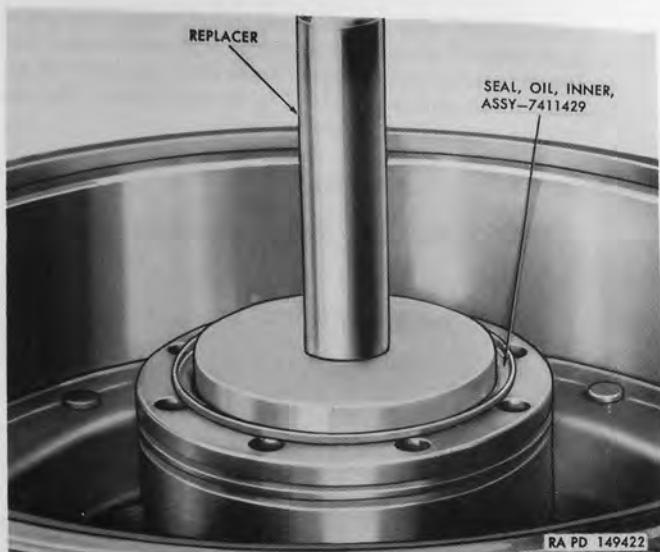

Figure 184. Installing inner oil seal with replacer 41-R-2392-635.
- (1) Clean, inspect, and lubricate outer and inner roller bearing cones (G and L), inside of hub with bearing cups assembly (J), and steering knuckle or axle housing as directed in TM 9-819A.
- (2) Place inner roller bearing cone (L) in inner end of hub. Position new inner oil seal assembly (M) on inner end of hub and drive into place with replacer 41-R-2392-635 (fig. 184). Oil seal flange must seat against inner end of hub.
- (3) Install hub assembly on steering knuckle (front axle) or axle housing (rear axle), using care not to damage inner oil seal. Place outer rolling bearing cone (G) on steering knuckle or axle housing and press into outer end of hub with